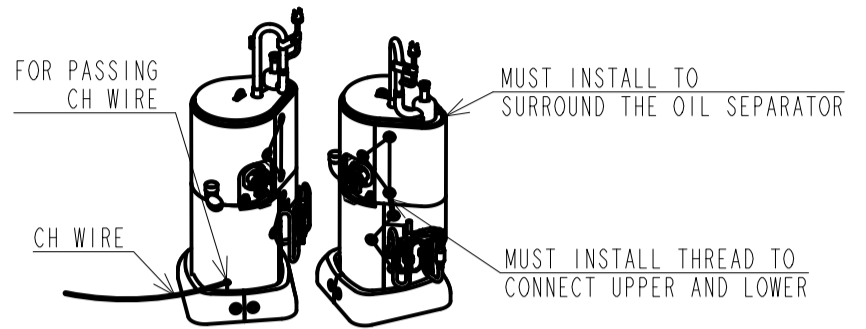

FIG. 7 INSTALLATION DETAILS OF COMP-INSULATION
- ⑰ INSTALL THE COMP-INSULATION. (FIG.7)